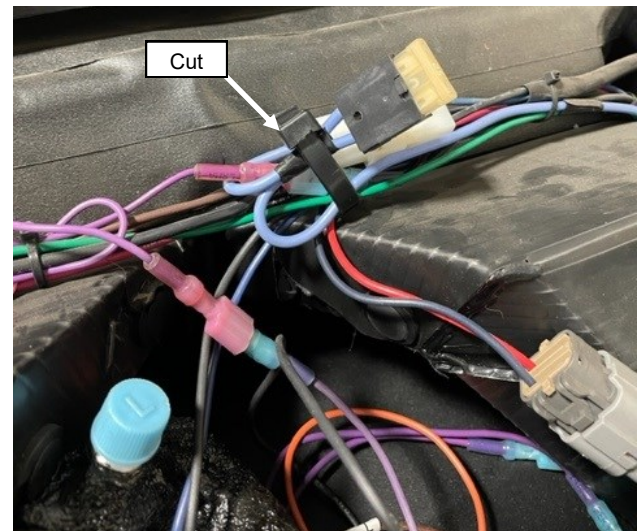
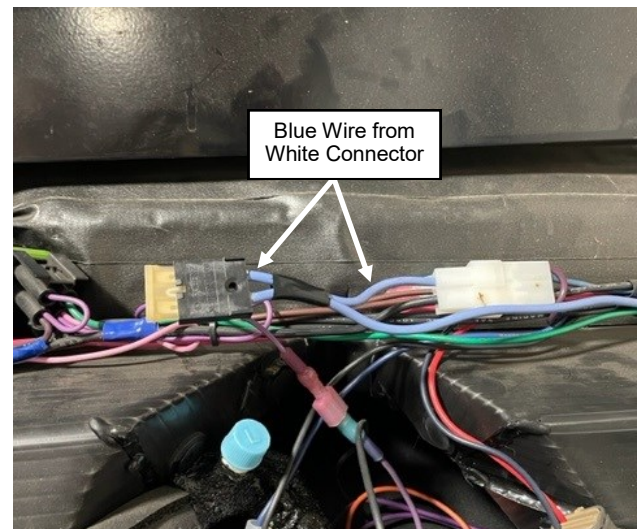

Fig. 2.11a (Cut Cable Tie)
Fig. 2.11b (Orient Fuse Holder)
- 2.11** Cut the cable tie off the fuse holder wiring shown in fig. 2.11a. Orient the fuse holder per fig. 2.11b